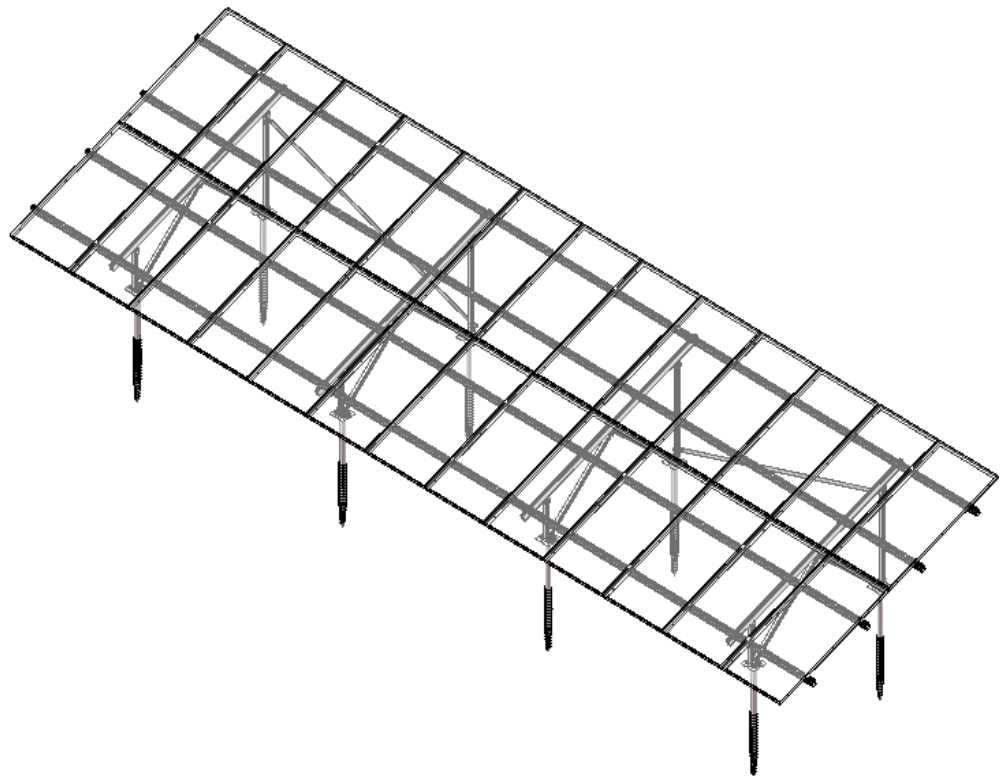

Figure 17
4.5.4 Now the installation of a single array is completed as shown in Figure 17.